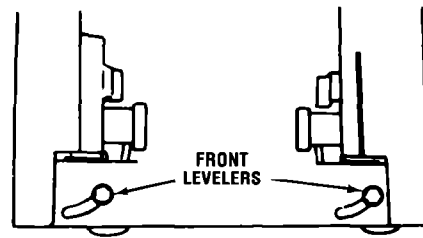

FIGURE 14
14. Loosen the screws to the front levelers (do not remove screws). Pivot the levelers to the floor and retighten screws. See Figure 14.